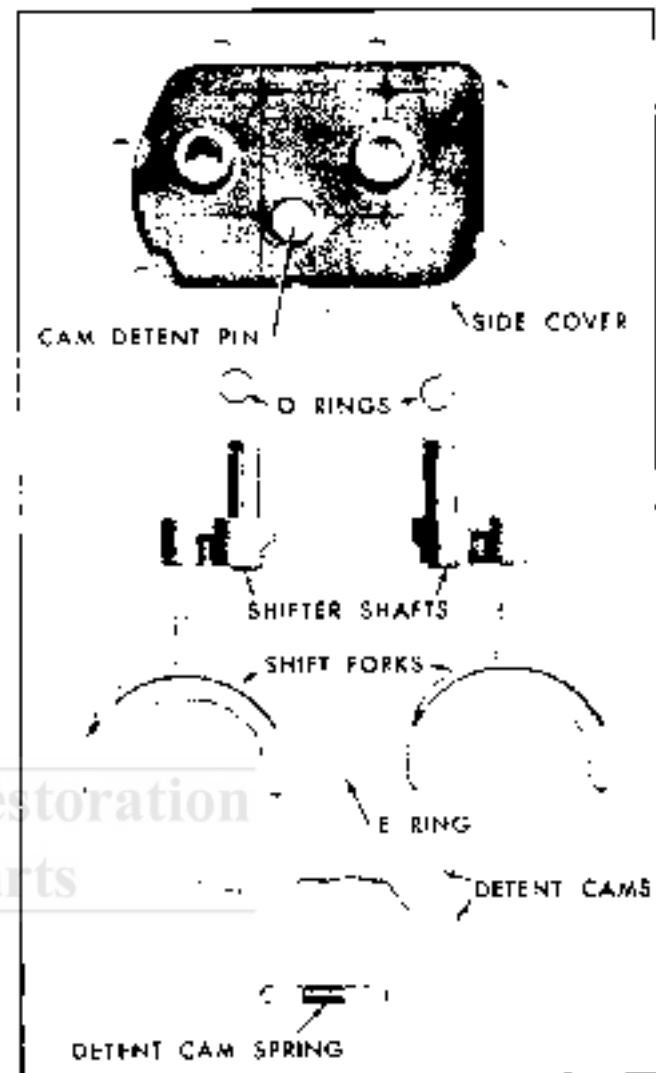

Fig. 7B-8 Exploded View of Transmission Side Cover
10. Using snap ring pliers, expand snap ring at front of extension housing which retains extension housing to mainshaft (Fig. 7B-12) and remove extension housing.
11. Using countershaft alignment tool J 22246, tap out counter gear shaft and its woodruff key through rear of case (Fig. 7B-13). Remove counter gear and two (2) tapered thrust washers.